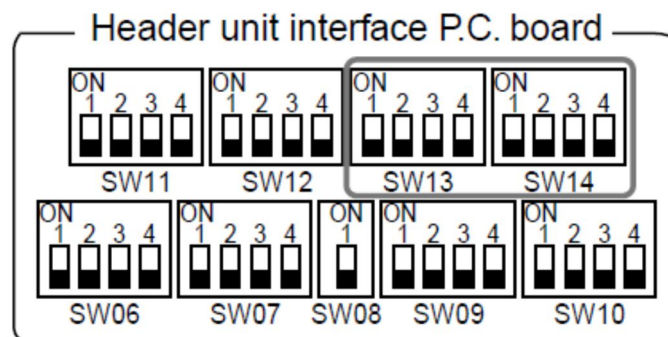

Fig 11
- 5) When setting up multiple systems for connection to a central remote controller or BMS system, confirm that the “Systems” are unequally addressed. Factory system setting is number 1. System addressing is carried out on the “Lead” unit of each system via dip switches SW13 bits 1 to 4 and SW14 bits 1 to 4. (Fig 11 & Fig 12).